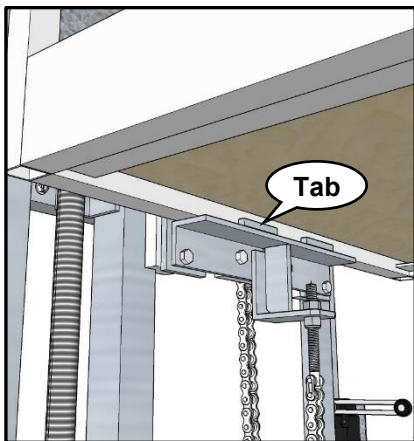

Figure 32
- 3** When positioning car on trolley, make sure the tabs are hooked under car as shown in **Figure 32**.